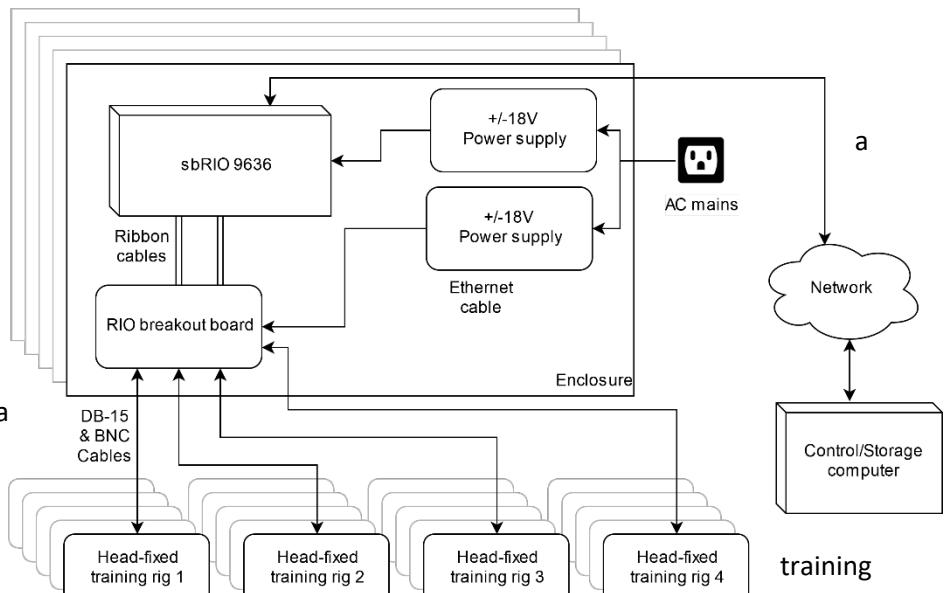
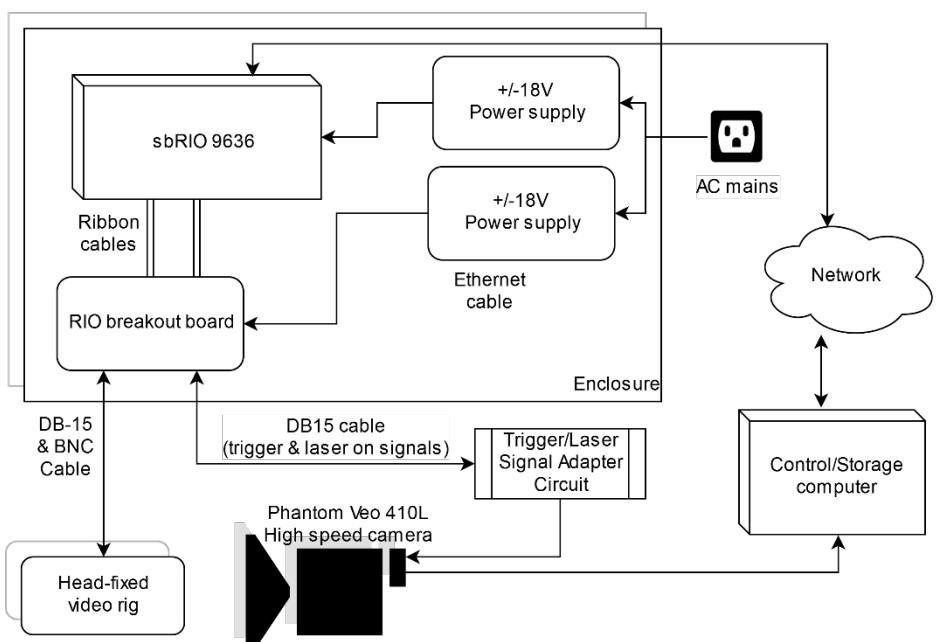

Figure 84 DAQ system schematic for head-fixed training (not video) rigs, showing half of what can fit in one enclosure
Figure 85 DAQ system schematic for head-fixed video rig, showing half of what can fit in one enclosure
The data acquisition system consists of single-board RIO DAQ from National Instruments, which has a large array of digital and analog input/output (IO) channels, a custom PCB that protects and distributes those channels, an enclosure for the DAQ, DB-15 cables to connect the DAQ to each homepage, and a control/storage computer which controls the DAQ via LabVIEW software, and stores the sensor data it receives. Each DAQ system can host up to eight head-fixed rigs, or two high speed video head-fixed rigs. See Figure 84 for the training rig schematic, and Figure 85 for the video rig schematic.